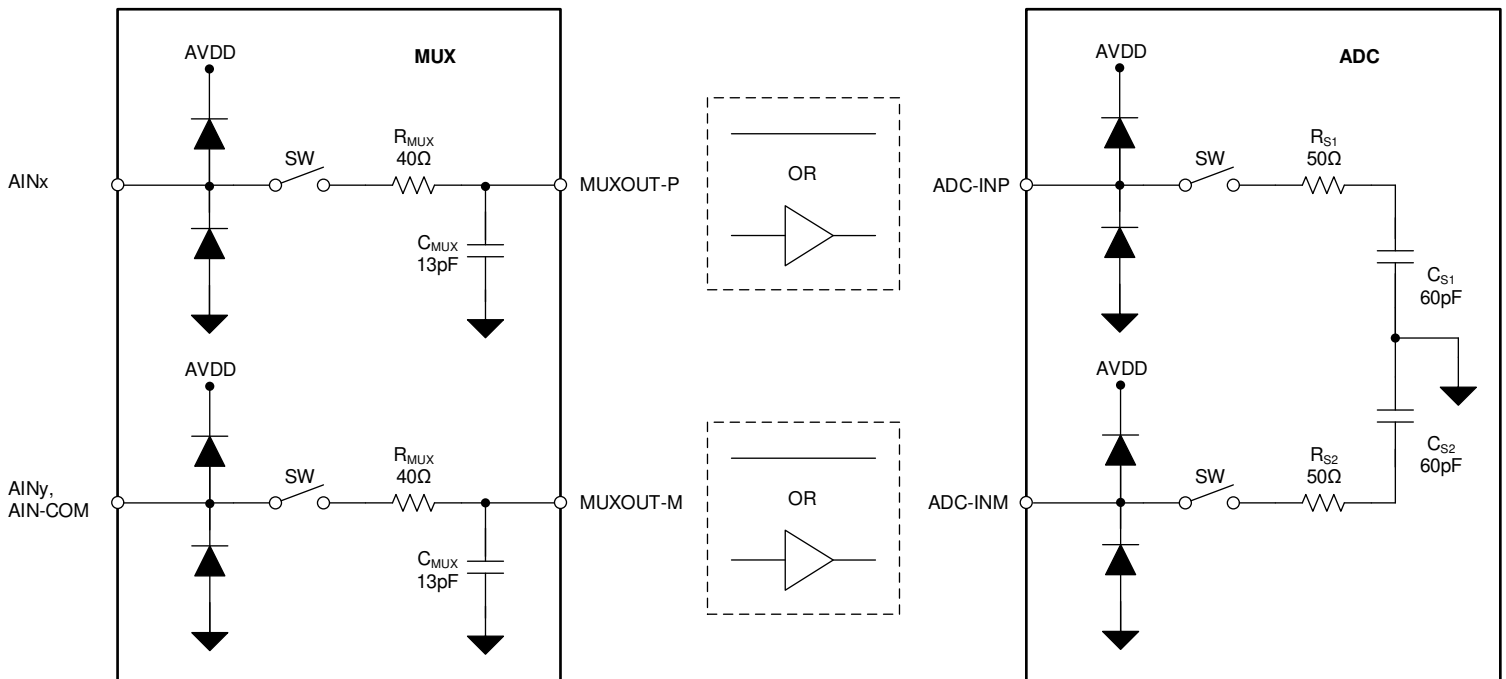

图 6-1. Input Sampling Stage Equivalent Circuit
图 6-1 shows the small-signal equivalent circuit of the sample-and-hold circuit. Each sampling switch is represented by resistance (R_{S1} and R_{S2} , typically $50\ \Omega$) in series with an ideal switch (SW). The sampling capacitors, C_{S1} and C_{S2} , are typically 60pF .